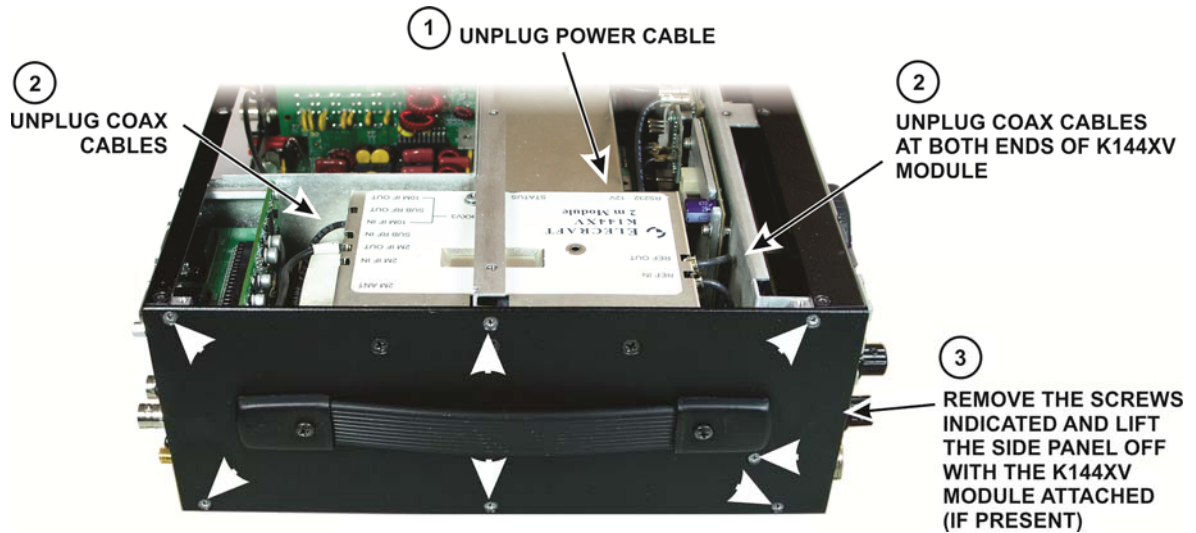

Figure 6. Removing the Left Side Panel.
- ☐ Remove the left side panel (Figure 6). If you have the K144XV module installed, first unplug the remaining coaxial cables and the power cable. Then remove all of the 4-40 (smaller) screws and remove the side panel with the K144XV module attached. If the KXV3 sub-receiver is installed, carefully slide the K144XV module out under the stiffener bar. You may need to lift the end of the stiffener bar slightly to pass the K144XV module under it, but take care not to bend it.
Replace the side panel, using the 4-40, 3/16" (4.8mm) black flat head screws you removed earlier (Figure 6, pg 4). If the K144XV option is installed, be sure you do not trap any of the coax TMP cables under the K144XV module. Replace all seven screws including the screw under the front end of the handle.